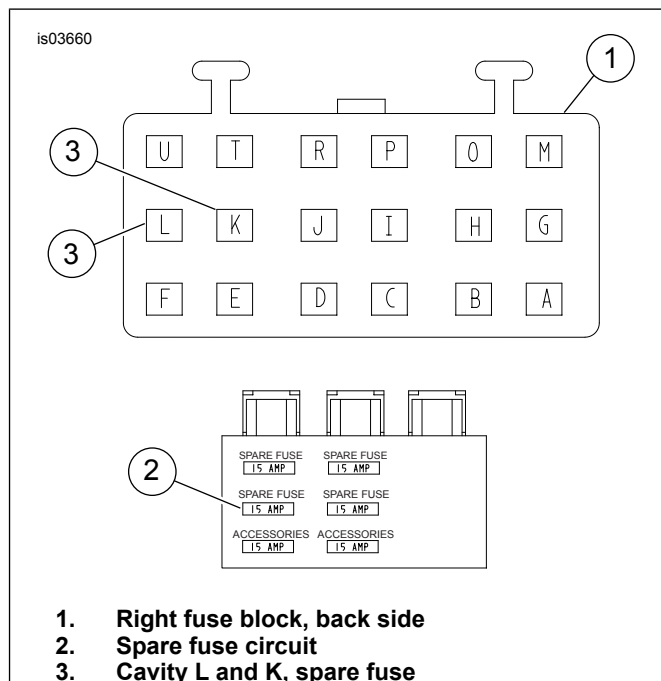
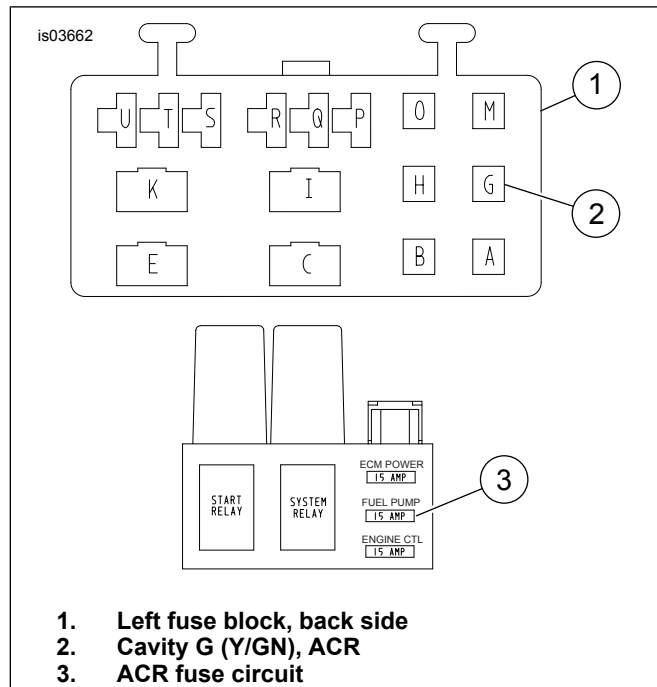

Figure 23. Right Fuse Block (Stock)
Figure 24. Left Fuse Block (Modified)
- See Figure 23. Remove spare fuse (2) from right fuse block.
- See Figure 23. Remove and discard terminal wires from spare fuse cavities L and K (3) in right hand fuse block.
- Install Y/GN terminal wires from ACR overlay wire harness into cavity G (Figure 24, Item 2) in left fuse block and cavity K (Figure 24, Item 3) in right fuse block.
3. Install fuel pump fuse (Figure 24, Item 4) into right fuse block and ACR fuse (Figure 23, Item 3) into left fuse block.